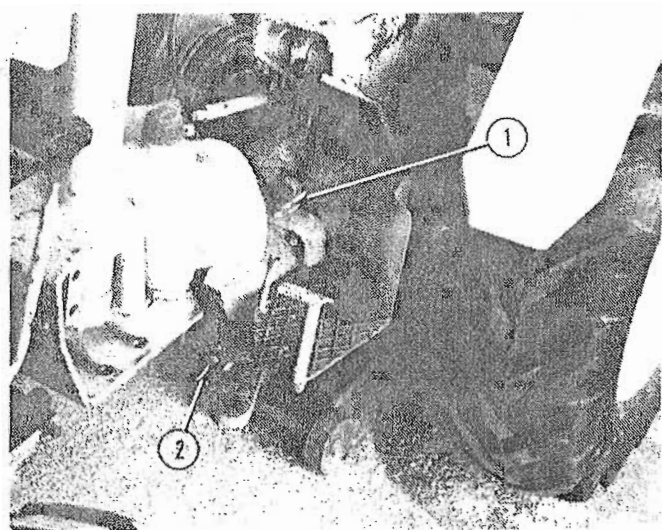

FIG. 2
Remove (4) 8 x 35 mm. bolts that secure the aft strap of the deck plate (1, Fig. 2) and (6) 10 x 25 mm. bolts that secure the leading edge of the deck plate (2, Fig. 2) to the barrel casting.